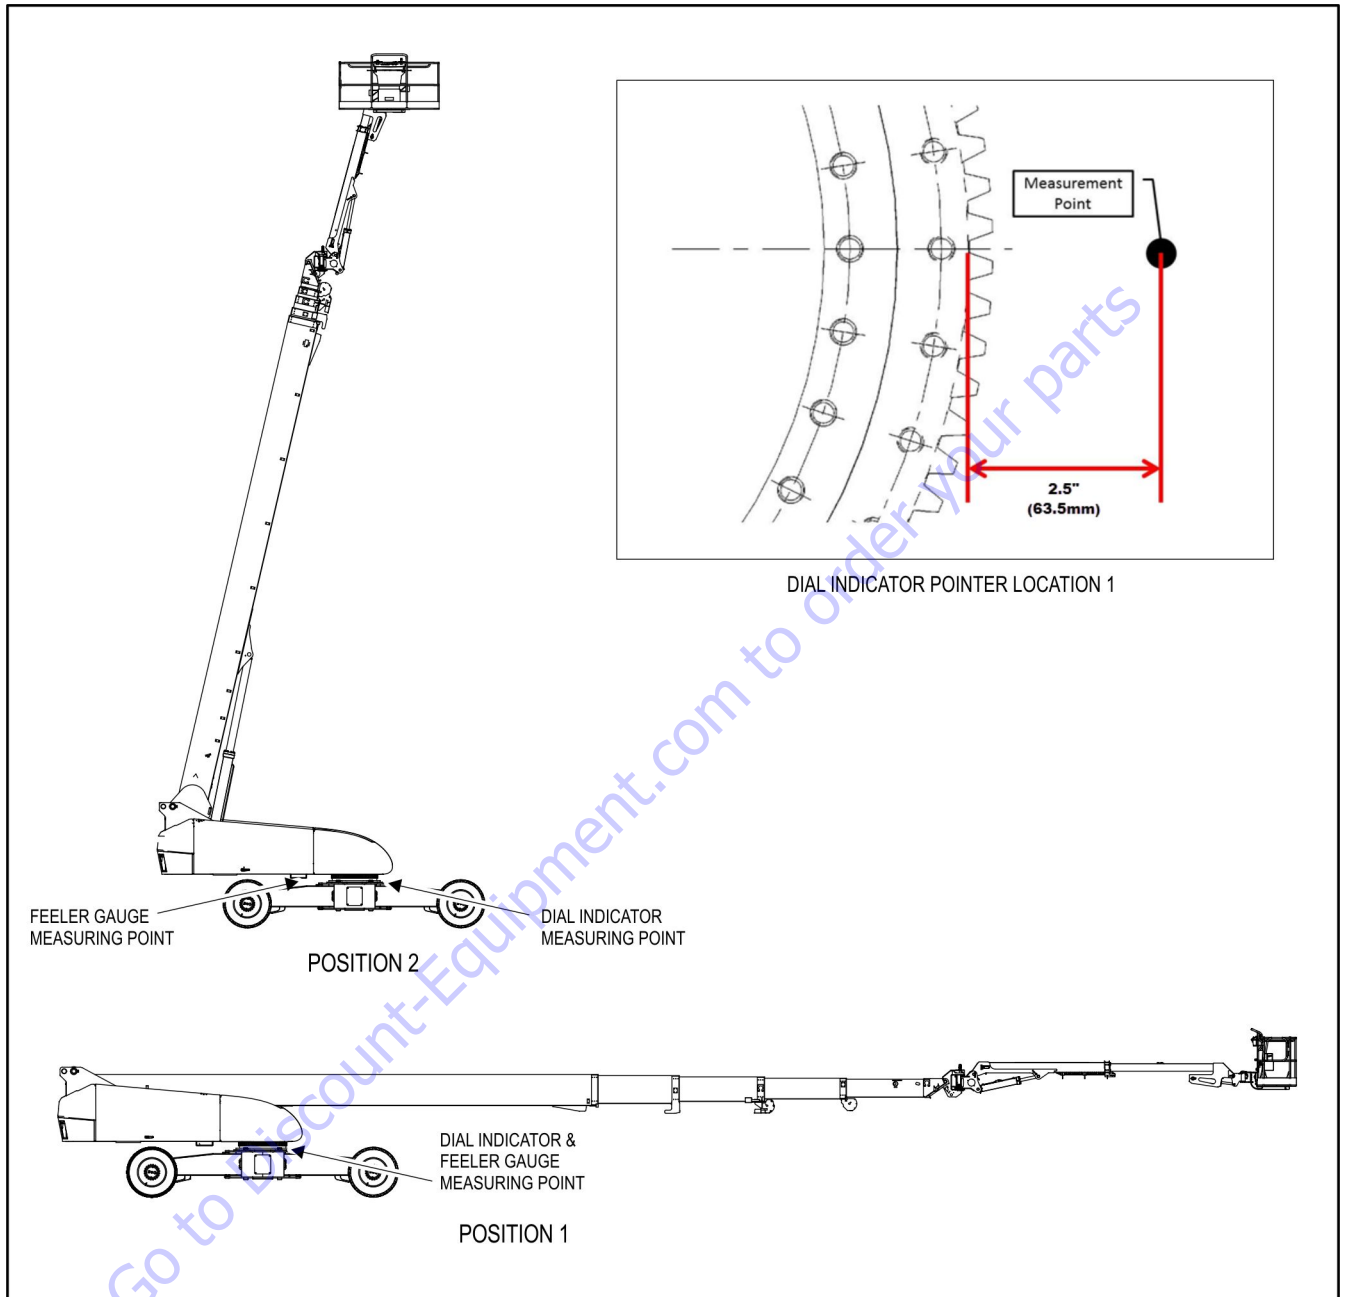

Figure 3-22. Swing Bearing Wear Tolerance
- a. Fully elevate the main boom. See Position 2, Figure 3-22.
- b. At the position indicated on Figure 3-22., try to insert a 0.0015 in. feeler gauge between the bolt and hardened washer at the arrow indicated position.
- d. At the position indicated on Position 1, Figure 3-22., try and insert the 0.0015 in. feeler gauge between the bolt head and hardened washer at the arrow indicated position.
See Figure 3-22., *Swing Bearing Wear Tolerance*.
1. Position the machine as follows and as seen in Figure 3-22., *Swing Bearing Wear Tolerance*, Position 1:
- c. The indicator point needs positioned to measure the turntable base plate 2.5 inches from the root of the gear tooth. Refer to Figure 3-22., *Swing Bearing Wear Tolerance*.
7. Return the machine to Figure 3-22., *Swing Bearing Wear Tolerance*, Position 1. The dial indicator should to return to zero. If the dial indicator does not return to zero, take corrective action and repeat the test.